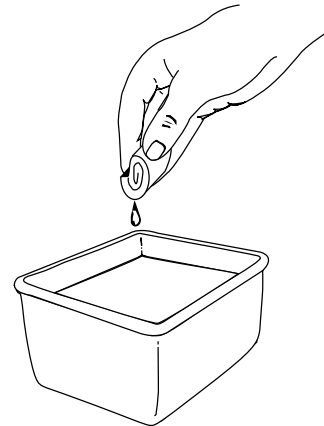

Fig. 30
3. Wash the filter in detergent and water (Fig. 30). Rinse the filter thoroughly. Squeeze out excess water. Allow it to dry completely.